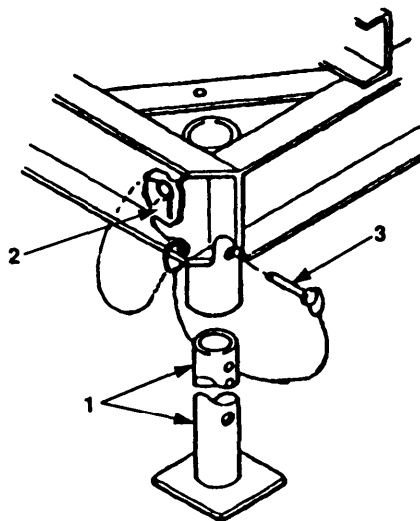

Figure 4-61. Support Leg Maintenance.
- b. Using jack, carefully tilt entire assembly until enough clearance is attained to remove support leg (figure 4-61, 1).
- d. Remove retaining pin (2).
- e. While holding support leg (1), remove anchor pin (3).
- f. Remove support leg (1).